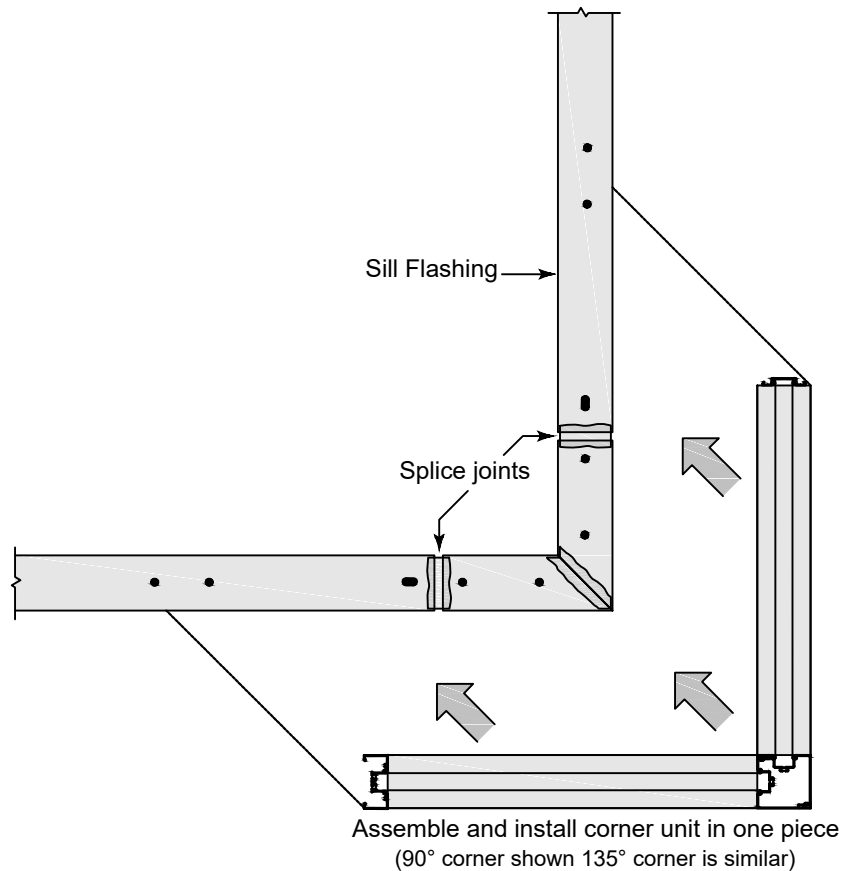

Fig. 38.1
A. Assemble corner bay frames as a unit and set onto the sill flashing. See Figure 38.1.